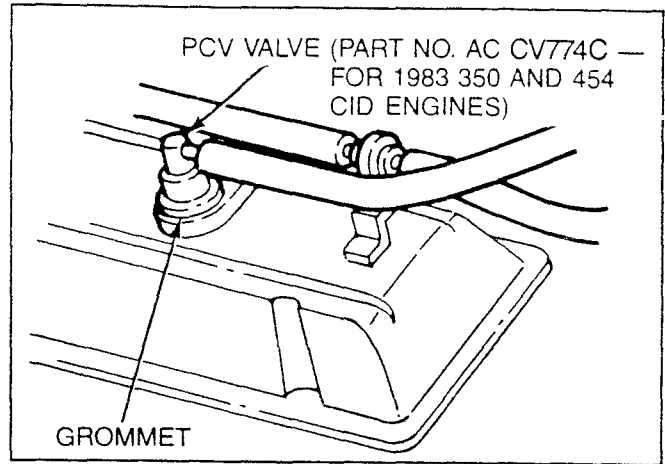

Figure 7-49 — PCV Valve
4. Shut off engine and remove PCV valve. Shake valve and listen for the rattle of check needle inside the valve. If valve does not rattle, replace valve (Figure 7-49). Remove PCV valve from rubber hose and look up the end of the hose using a flashlight. If the hose appears coated "oil wet", replace PCV valve.